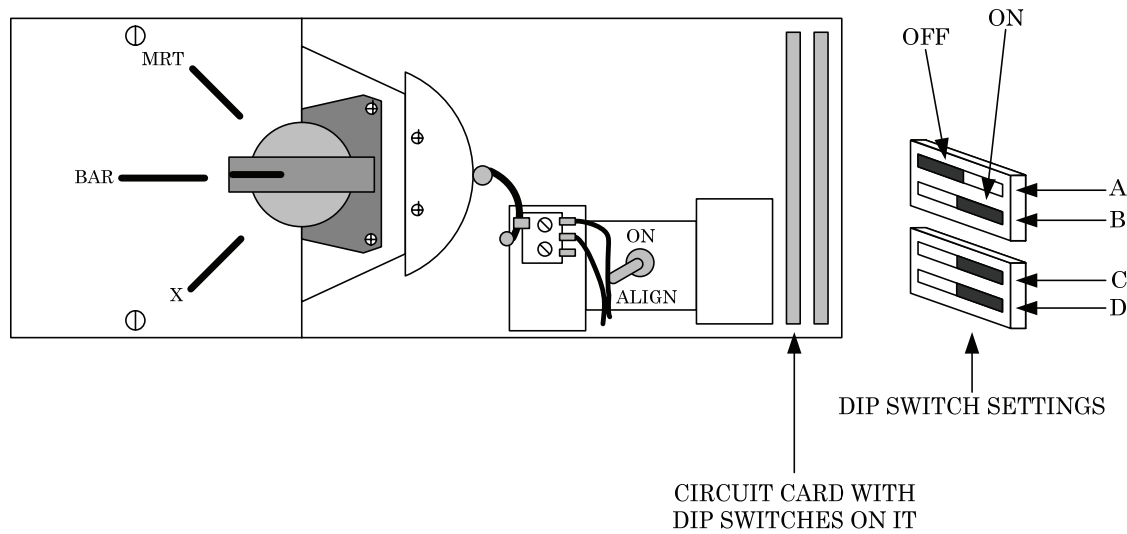

Figure 9. Example of Dip Switch correction setting for -0.025 to -0.075 °C.
Ensure dip switch 1, **A** and **B** are set to **ON**. Ensure dip switch 2, **C** and **D** are set to **ON**. Refer to figure 9 for example of settings.
(d) Refer to calculated temperature error for **BAR** target recorded on BAR Target Temperature Worksheet or for **MRT** target recorded on MRT Target Temperature Worksheet and set dip switch 1 and dip switch 2 (example in figure 9) to indicate temperature error °C as indicated in table 4 (R).